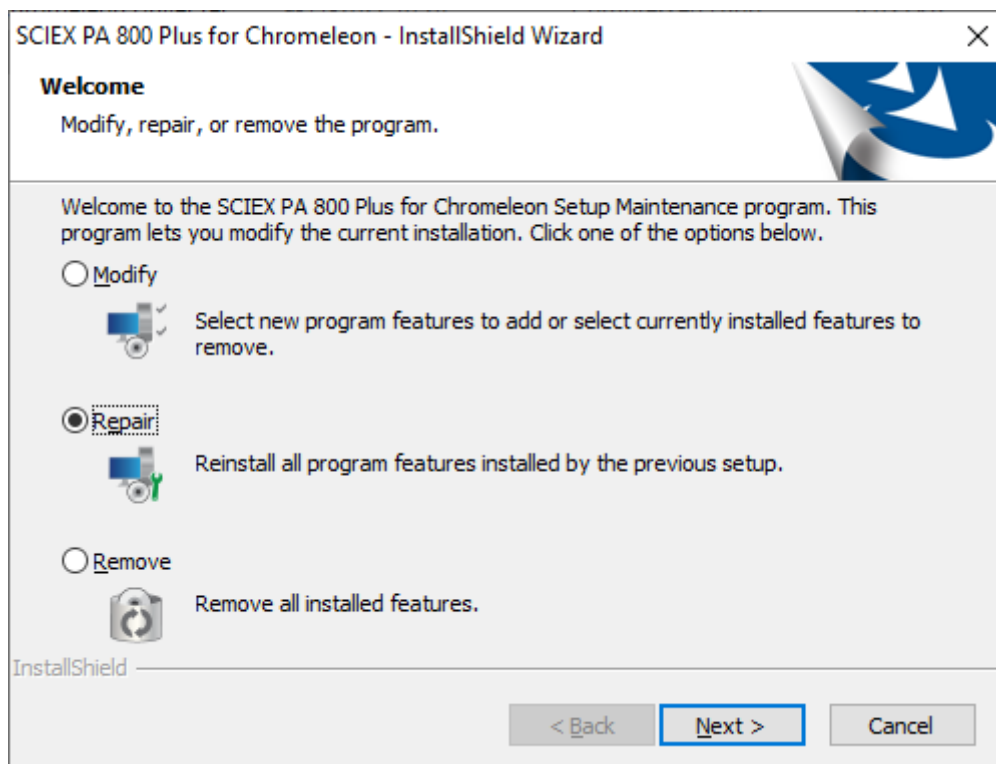

Figure 1: Maintenance mode
1. Insert the SCIEX PA 800 Plus Driver installation medium into the PC. Click **Run Setup.exe**. This starts the SCIEX PA 800 Plus Driver setup in **Maintenance mode** (see Figure 1: Maintenance mode).